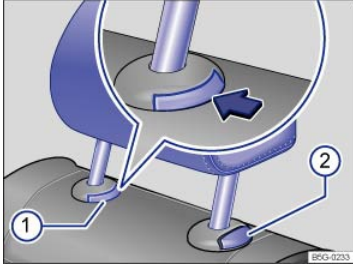

Fig. 76 Removing the rear head restraints.
- Push button ⇒ Fig. 76① in the direction of the arrow and hold it in this position.
- At the same time press button ② while a second person pulls out the head restraint completely.
- Push the head restraint down while pressing button ⇒ Fig. 76②.